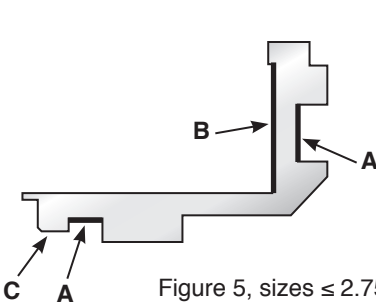

Figure 5, sizes ≤ 2.750 inch (70 mm)
4.3 **Inner gland** [11] see Figures 5 and 6.